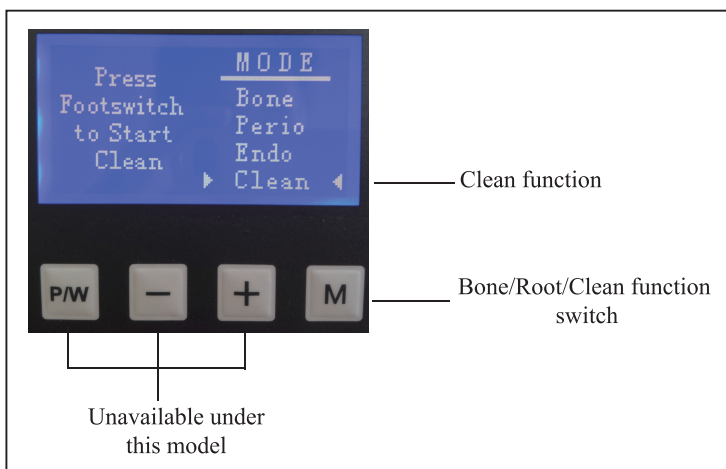

Fig.11
7.2.3 Clean function (Fig.11)
- c) Start the CLEAN function (Fig.11);